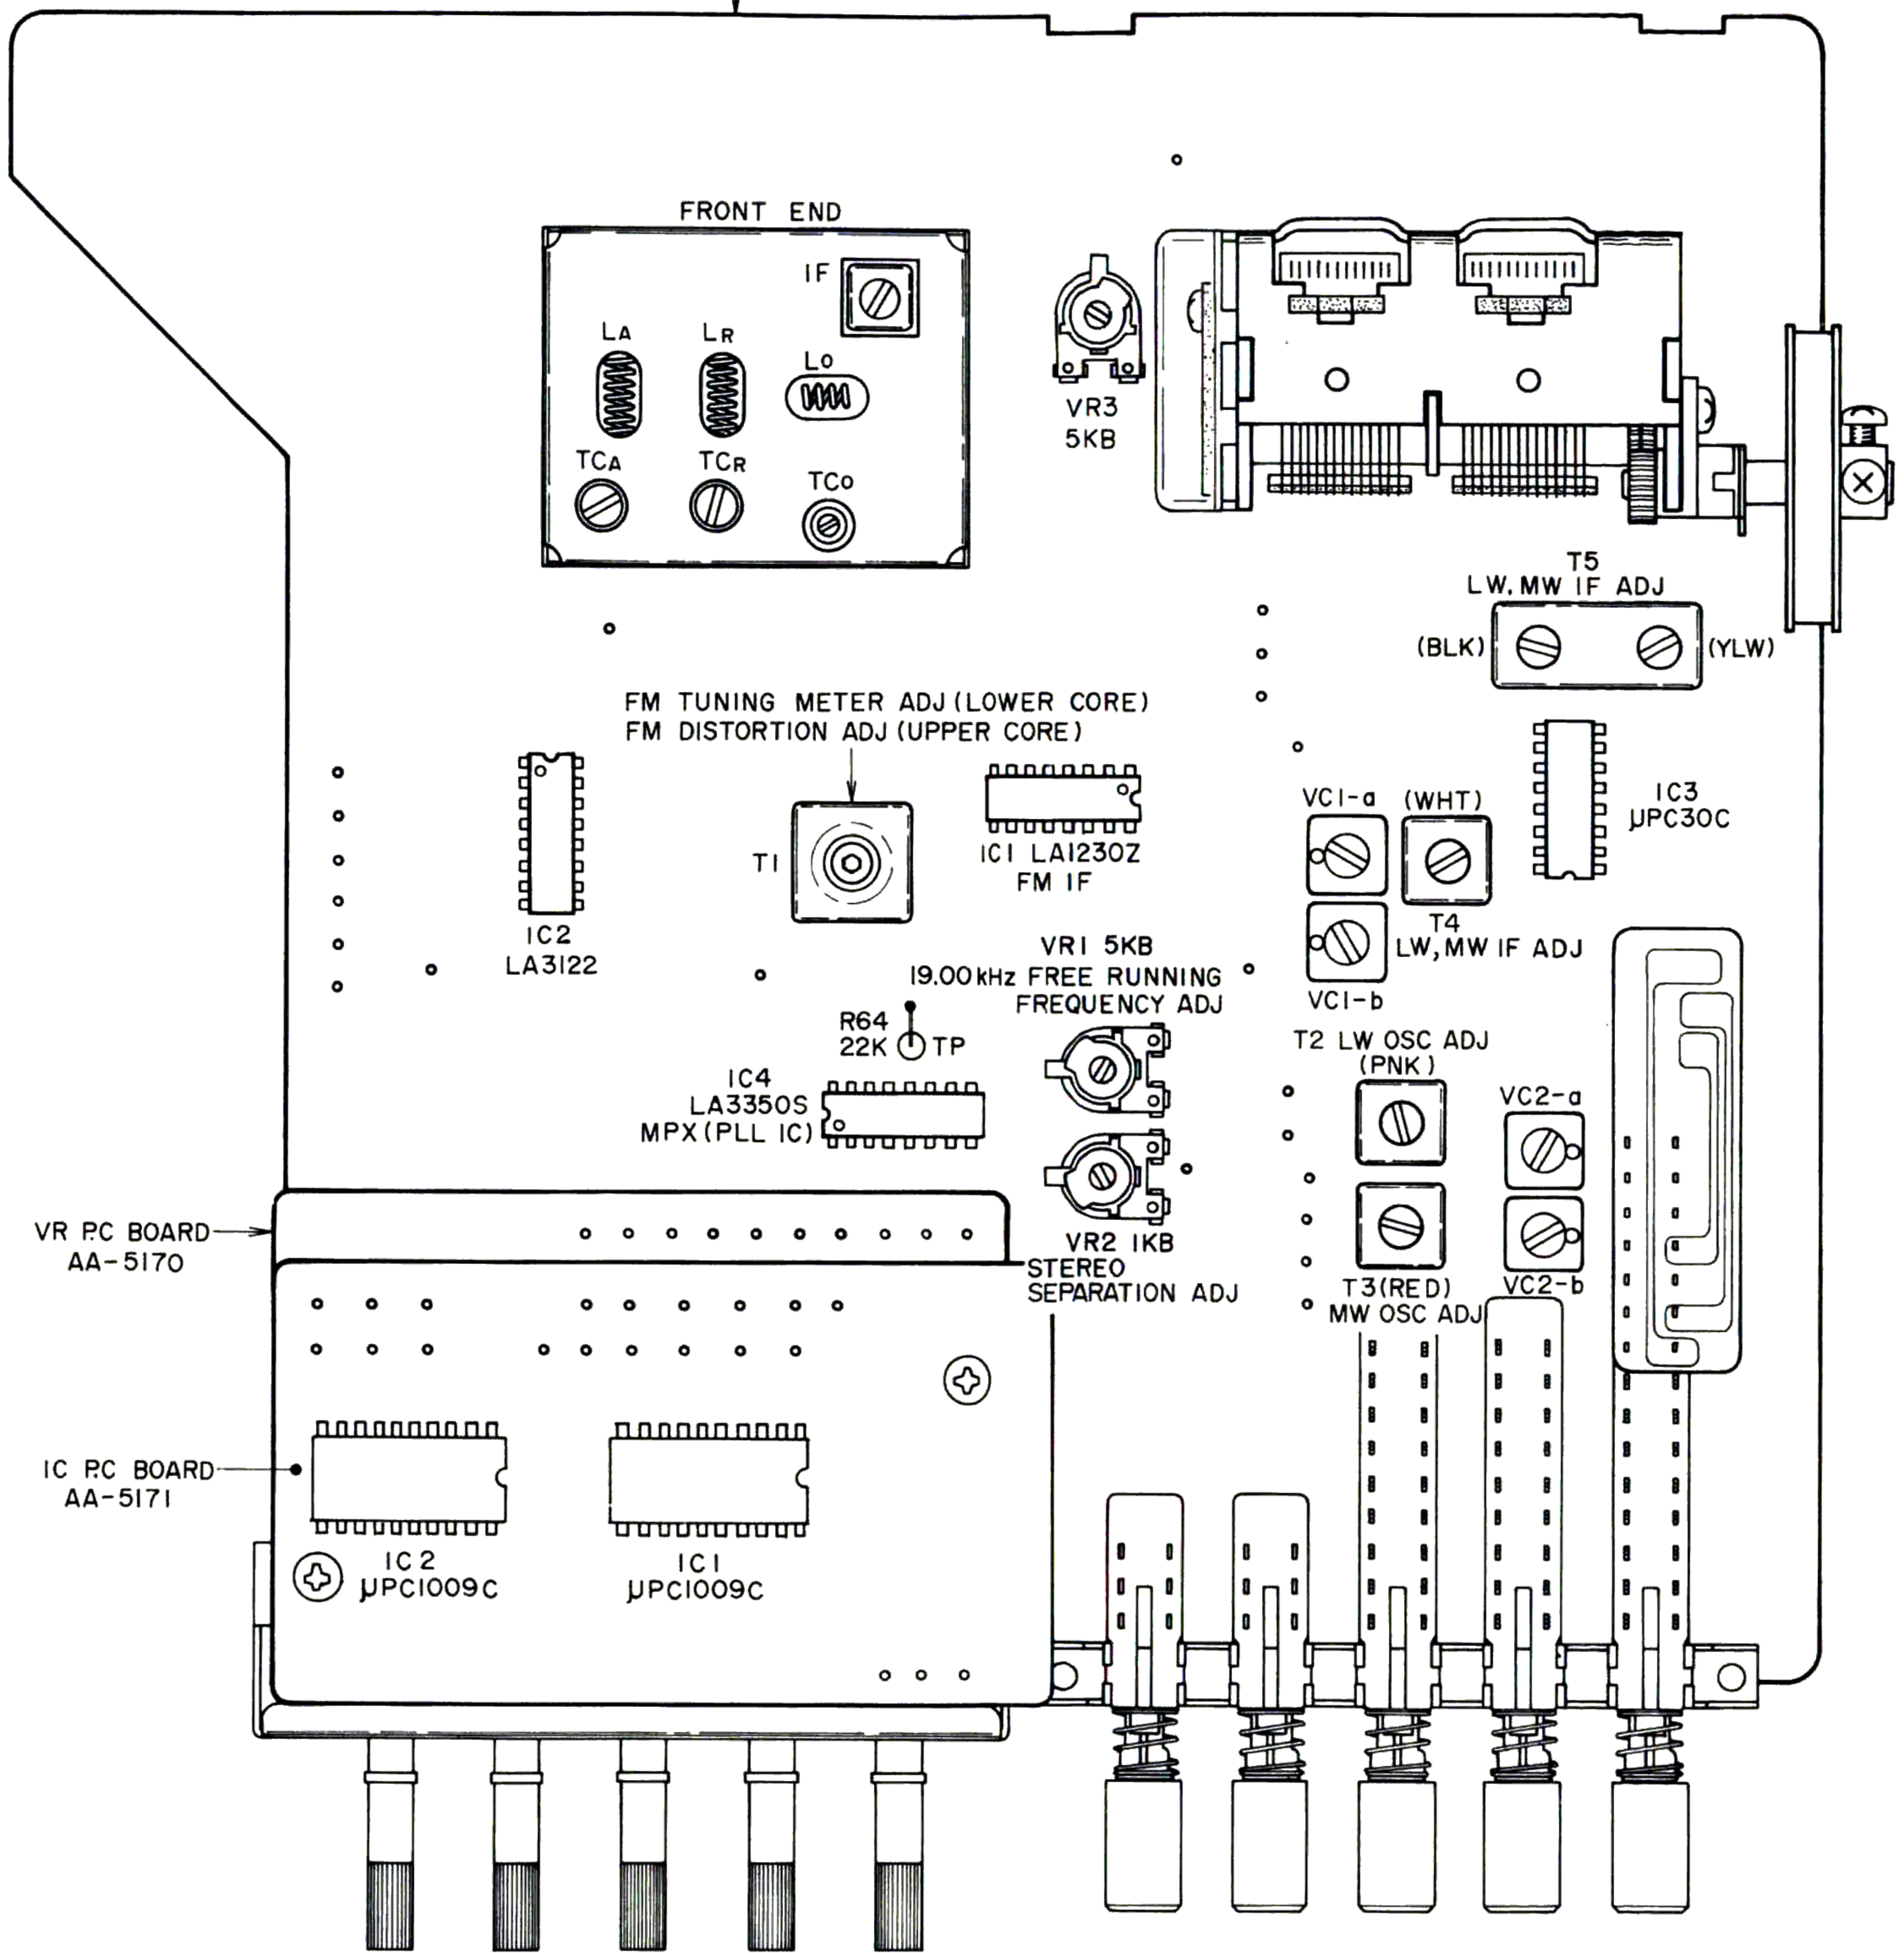

Fig. 30 Multi Function P.C Board AA-5159A
b. LW and MW Tuner Section Adjustment (Refer to Figs. 30, 31)